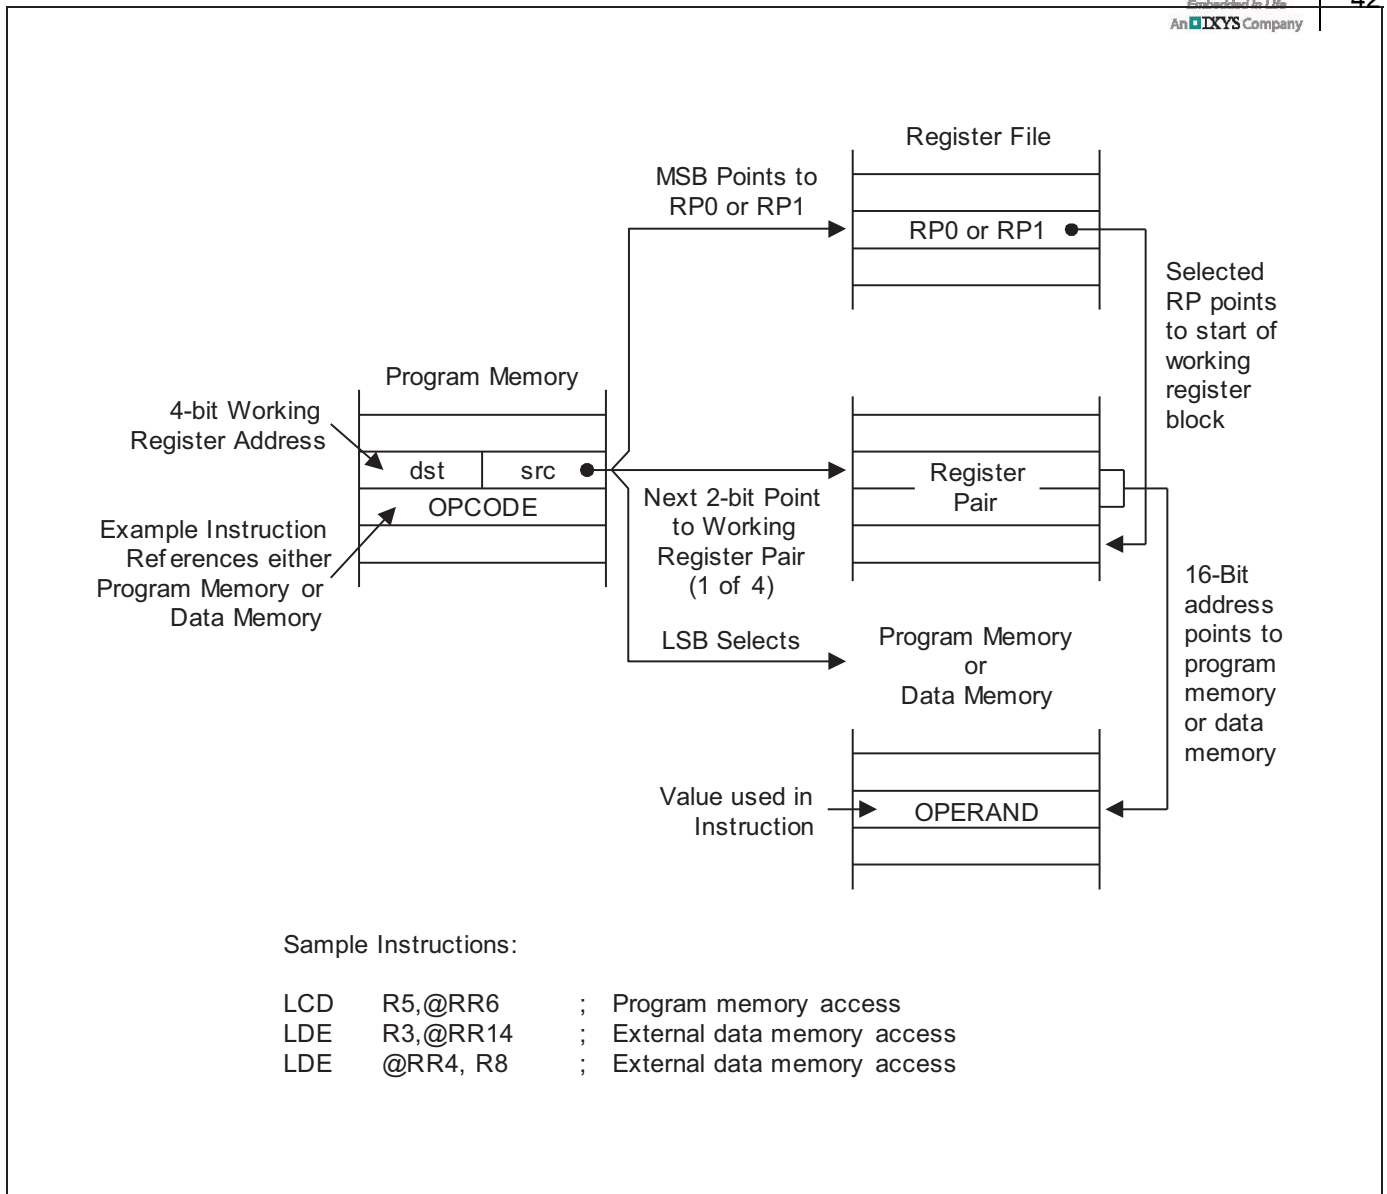

Figure 3-6 Indirect Working Register Addressing to Program or Data Memory
In Indirect Register (IR) addressing mode, the content of the specified register or register pair is the address of the operand. Depending on the instruction used, the actual address may point to a register in the register file, to program memory (ROM), or to an external memory space. (Refer to Figure 3-3 through Figure 3-6 for more information).
Figure 3-6 illustrates the indirect working register addressing to program or data memory.